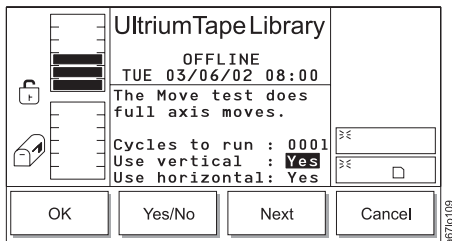

Figure 4-160. Use Axes Dialog
- To specify whether to test the vertical or horizontal axis, press the button below the **Next** softkey until the selection cursor highlights the value in the Use vertical or Use horizontal field. The Use Axis Dialog displays (see Figure 4-160). Press the button below the **Yes/No** softkey until the value that you want displays.